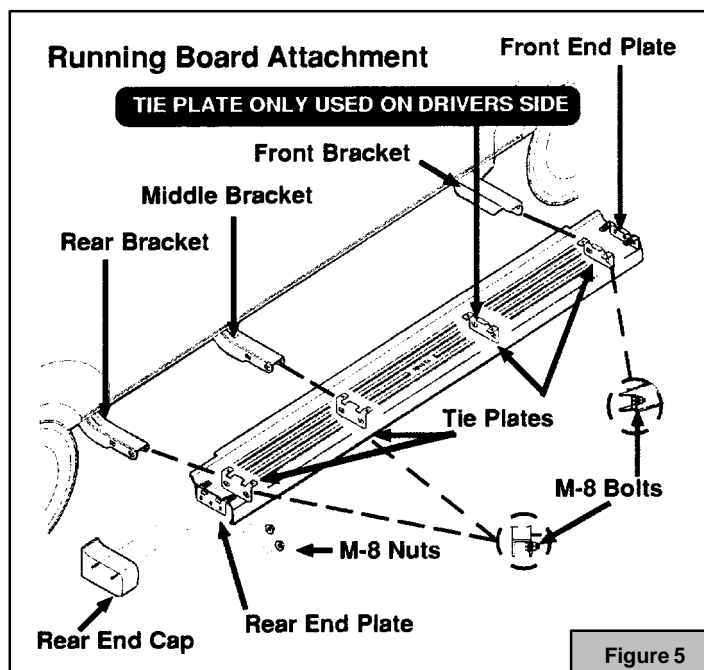

Figure 5
1. Before placing the running board onto the brackets, install the rear side end cap on the rear of the board by sliding the M-8 studs into the end plate slots. Loosely attach the provided M-8 nuts to the studs of the end cap (see figure 5). Do not tighten the end plate to the platform at this time.
2. Slide the running board assembly onto the installed brackets. Attach all brackets loosely to the running board with provided M-8 bolt assemblies (figure 5).